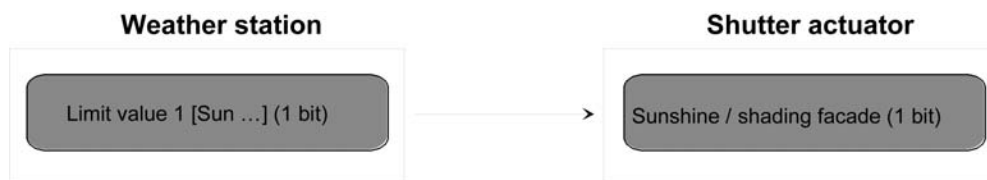

Figure 22: Programming of the communication objects for application example I
- fixed positions setting.(Figure 22)